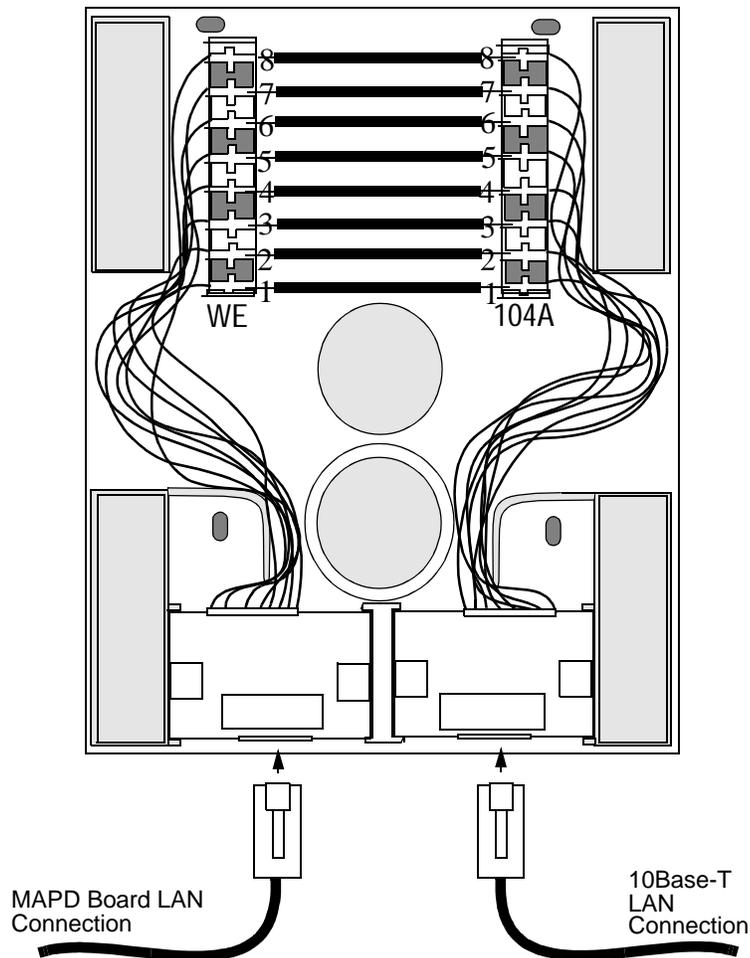

Figure 2-7. 104A Connecting Block
- A 104A connecting block will be mounted on the wall within reach of this connector. This can be supplied by Lucent Technologies. Eight wires must be hard-connected across the two mounting blocks inside the 104A prior to mounting it to the wall, as shown in Figure 2-7, "104A Connecting Block." The ends of each wire are stripped of insulation. A punch-down tool is used to press the ends of these eight wires into the mounting blocks. Four protector caps snap over the top of the mounting blocks.